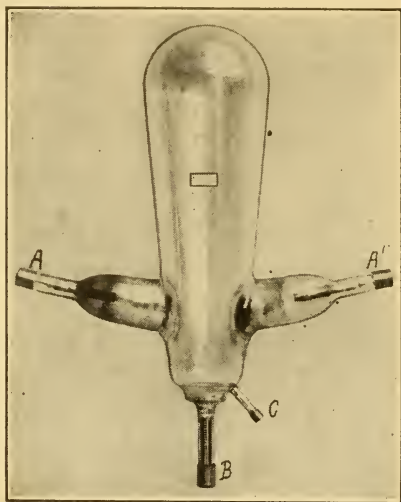
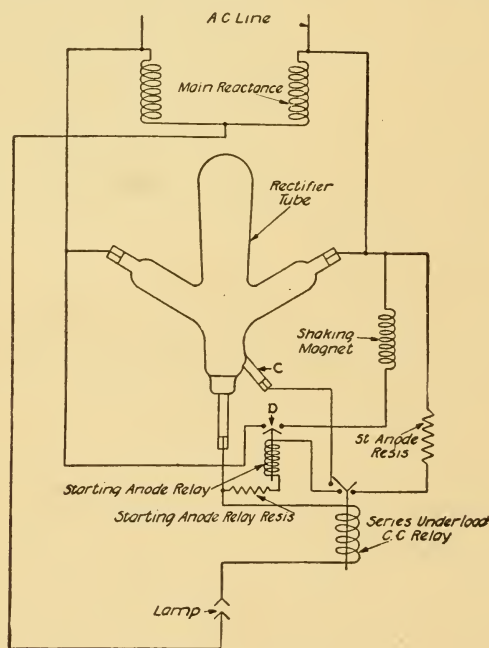

FIGURE 73
FIGURE 74
(11) Fig. 73 shows the mercury arc vacuum tube. A and A', at the end of the side extensions of the tube, are metal clips that connect through air-tight seals with a lug, of graphite or some other material, inside the tube. Extensions B and C are filled with mercury which forms an electrical connection through an air-tight seal with the metal clips on the outer surface of the tube.
(14) We will assume the rectifier to be idle, but connected to the current supply and ready to operate. On closing the main switch a "shaking magnet" tilts the tube sharply sidewise, which forces lugs BC (Fig. 73) to move upward to the left so that the mercury in them is thus brought into contact, whereupon the tube is rocked back to an upright position. This new action causes the mercury to separate again, and at the instant of breaking contact an electrical spark is formed.
(15) The spark vaporizes and ionizes enough of the mercury to fill the whole tube with mercury vapor—a state in which it is an excellent conductor of current.
(16) Remember that lugs A and A1 are charged with voltage from the secondary circuits of the main reactance, usually located at the bottom of the rectifier. Consider, too, that A and A1 are connected to opposite sides of the secondary. In other words, A represents one side of the a. c. supply and A1 the other. Remember also that voltage is supplied, through the vapor, between A and A1 and lug B.
(17) Referring to Figure 74, note that C of Figure 73 is wired in series with a "starter anode resistor" which limits the current that can flow through it, and hence reduces C to a state of practical unimportance except as one of the electrodes for the starting spark. The remainder of the action of this rectifier lies between A, A1 and B.
Assuming the a.c. line entering Figure 74 at the top to be of 110 volts, there is a drop of 55 volts across each of the two main reactance coils connected in series across that line. The wire that runs left and downward from the center point between those coils is then negative by 55 volts with respect to whichever of the two wires is positive at any given moment. This center-tap wire may be traced through the arc itself (labeled "lamp" in the drawing) and through a protective relay to B of the rectifier.
Fig. 74 shows the wiring set-up in simple form. The regulating reactance and several other devices are not shown.